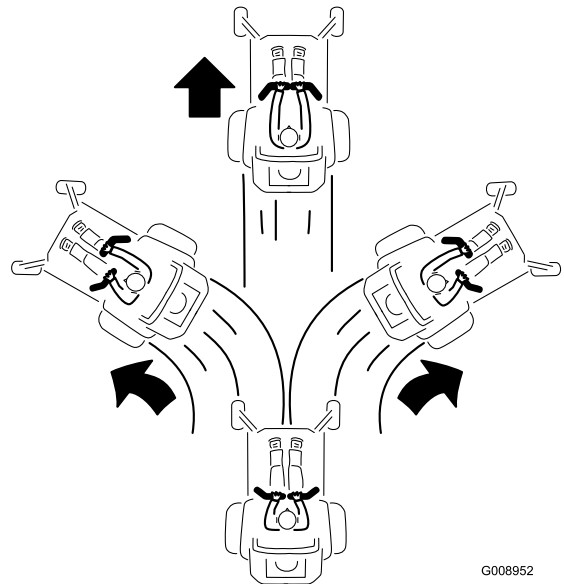

Figure 27
2. To go forward, slowly push the motion-control levers forward (Figure 27).